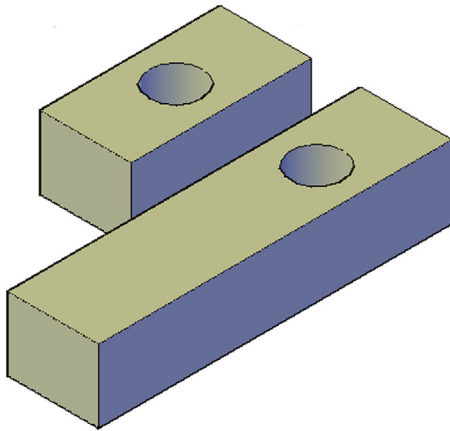

FIGURE 25.21
- Step 2.** AutoCAD once again runs through the lengthy solid editing menu and asks you to select a face. Pick the face you want to offset and press Enter. AutoCAD then asks you to specify the offset distance. Enter some value, and you see the result, similar to that shown in Figure 25.21.